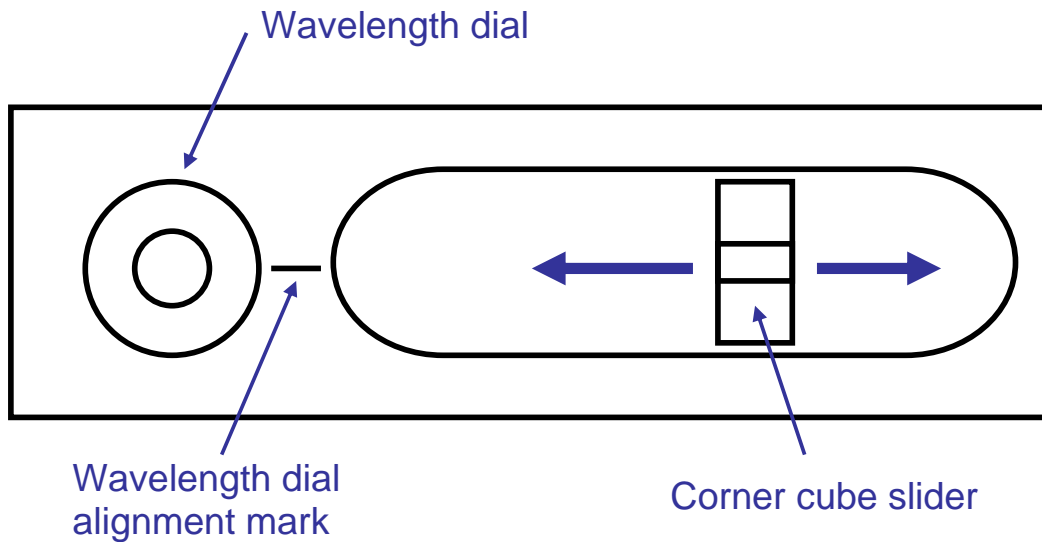
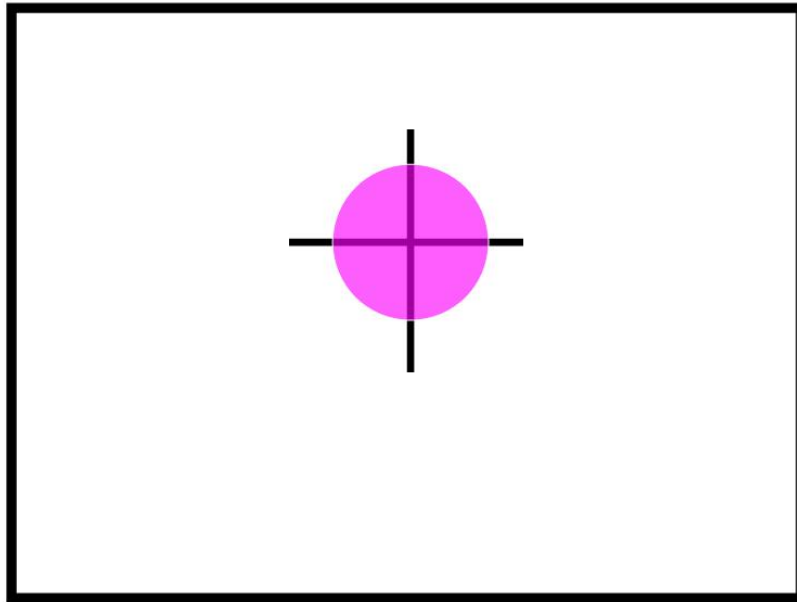

Fig. 5. Top view of the BOA.
Fig. 6. Example of a target.
6. Adjust the wavelength dial located on the top of the BOA for the center wavelength of the laser beam. (see Fig.5)
1. Check for movement in the beam exiting the BOA when the corner cube slider is translated forward and backward. (see Fig. 5) It may be helpful to make a target and align it so that the laser beam is centered on it. (see Fig. 6)